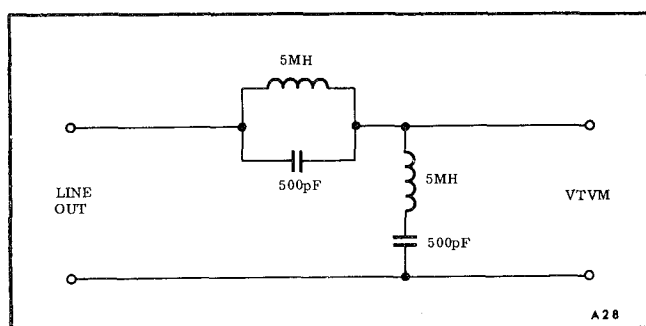

Figure 4-5. Bias Filter Schematic
4. Bias Filter (see Figure 4-5)
4.52 This check can be made while simultaneously recording and reproducing using a bias filter (see Figure 4-5).